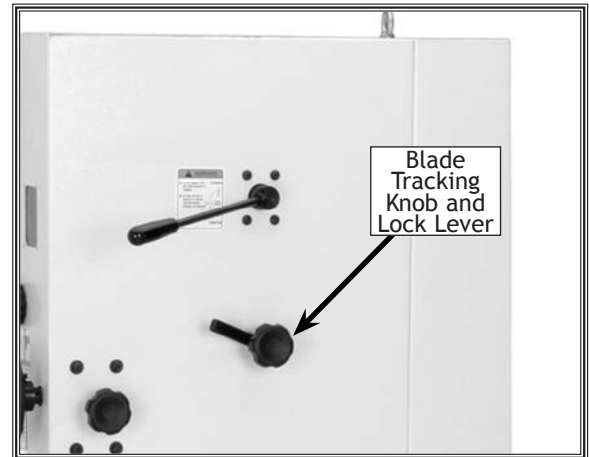

Figure 50. Blade tracking control.
3. Unlock the tracking knob lock lever a few turns (see **Figure 50**).